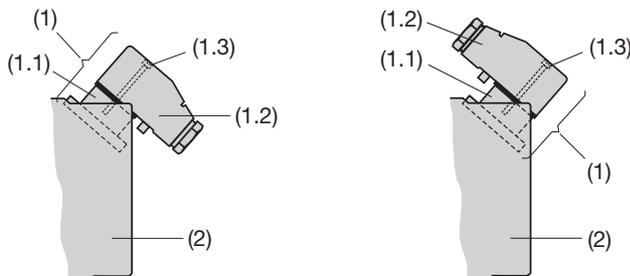

Fig. 4. Rear (2) with plug-in connector (1).
The **plug-in connector** (1) consists of a socket (1.1) mounted on the rear (2) of the transmitter and plug (1.2) on the end of the connecting cable (screw gland PG 11) and 7 screw terminals (wire gauges up to max. 1 mm2). The socket can be mounted so that the cable is routed to either the rear (Fig. 4, left) or the front (Fig. 4, right).